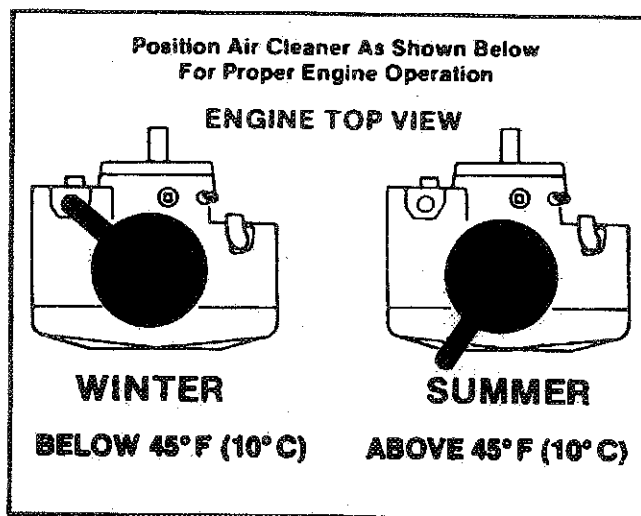

Figure 5-5. Typical Decal - Anti-Icing Air Cleaner Cover Positions.
4. Install the air cleaner cover with the inlet duct positioned for the season of operation. Refer to the decal on the air cleaner cover (Figure 5-5).